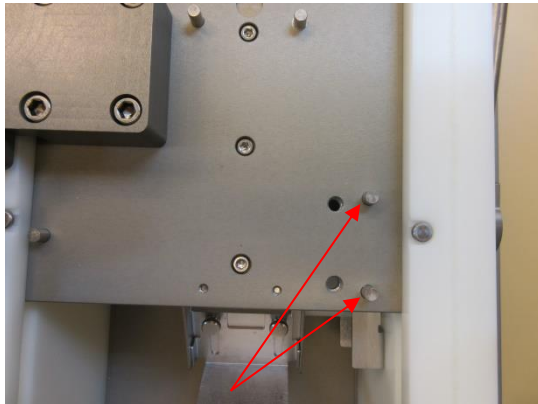
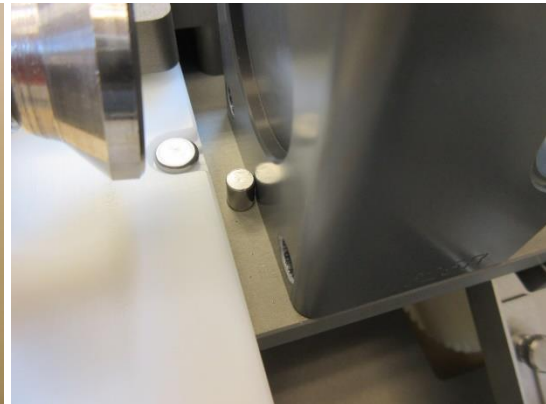

Figure 3
Figure 3a
- Slightly squeeze jaws together and place on the two (2) dowel pins extending from thrust plate. (Figure 3) Make sure that the left side of the jaws are inside the Jaw Stop Pin. (Figure 3a)